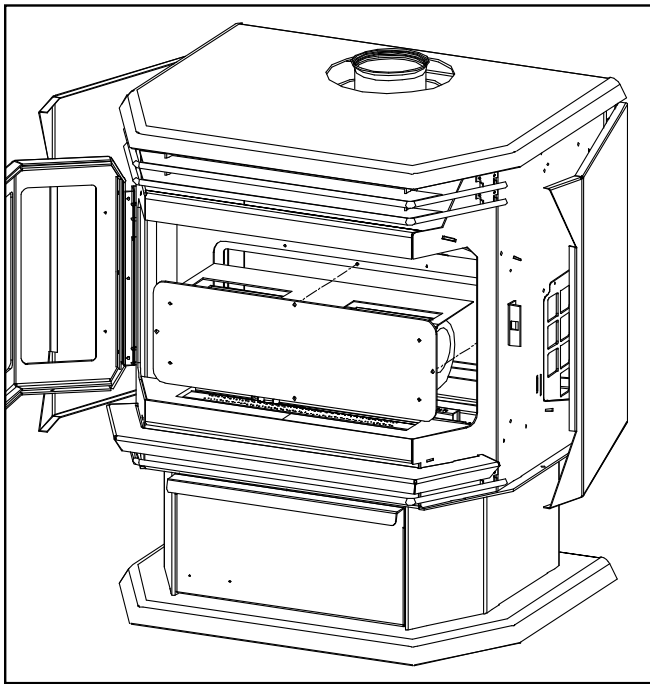

Figure 28: Blower (Fan) Removal.
4. Remove the four (4)  $\frac{5}{16}$ " bolts that hold the blower mounting plate to the back firewall. Use a light lubricating oil on screws before removal.
5. Carefully pull the blower assembly into the firebox (see Figure 28) disconnect the blower leads from the harness and remove blower.